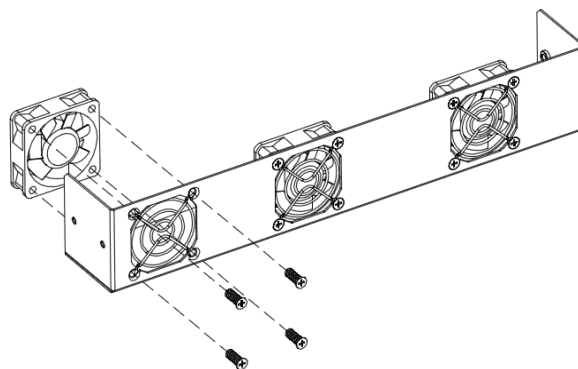

Figure 15C: Replace the fan
8. Disassemble the damaged inverter fan as shown in figure 15C below, then install the new fan back to its original position, and connect the fan power and control cable;